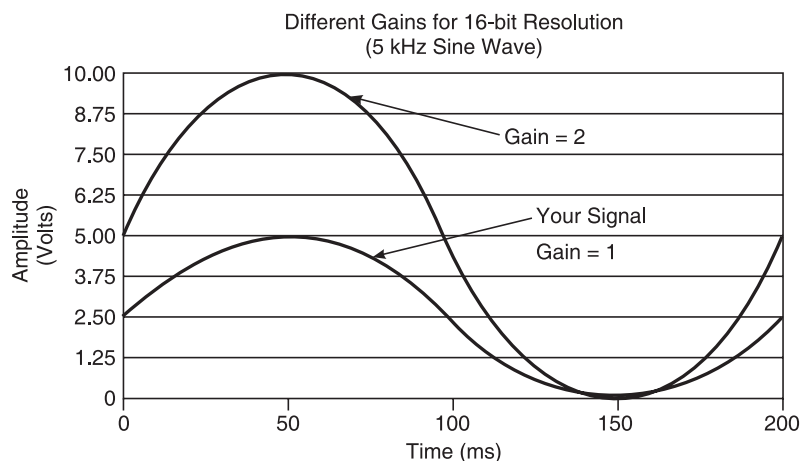

Figure 11.21 Effects of applying amplification.
*Amplification or attenuation* of a signal can occur before the signal is digitized to improve the representation of the signal. By amplifying or attenuating a signal, you can effectively decrease the input range of an ADC and thus allow the ADC to use as many of the available digital divisions as possible to represent the signal. For example, Figure 11.21 shows the effects of applying amplification to a signal that fluctuates between 0 and 5 V using a 3-bit ADC and a range of 0 to 10 V. With no amplification, or gain = 1, the ADC uses only four of the eight divisions in the conversion. By amplifying the signal by two before digitizing, the ADC uses all eight digital divisions, and the digital representation is much more accurate. Effectively, the device has an allowable input range of 0 to 5 V because any signal above 5 V when amplified by a factor of two makes the input to the ADC greater than 10 V. The range, resolution, and amplification available on a DAQ device determine the smallest detectable change in the input voltage. This change in voltage represents one least significant bit (LSB) of the digital value and is also called the code width.